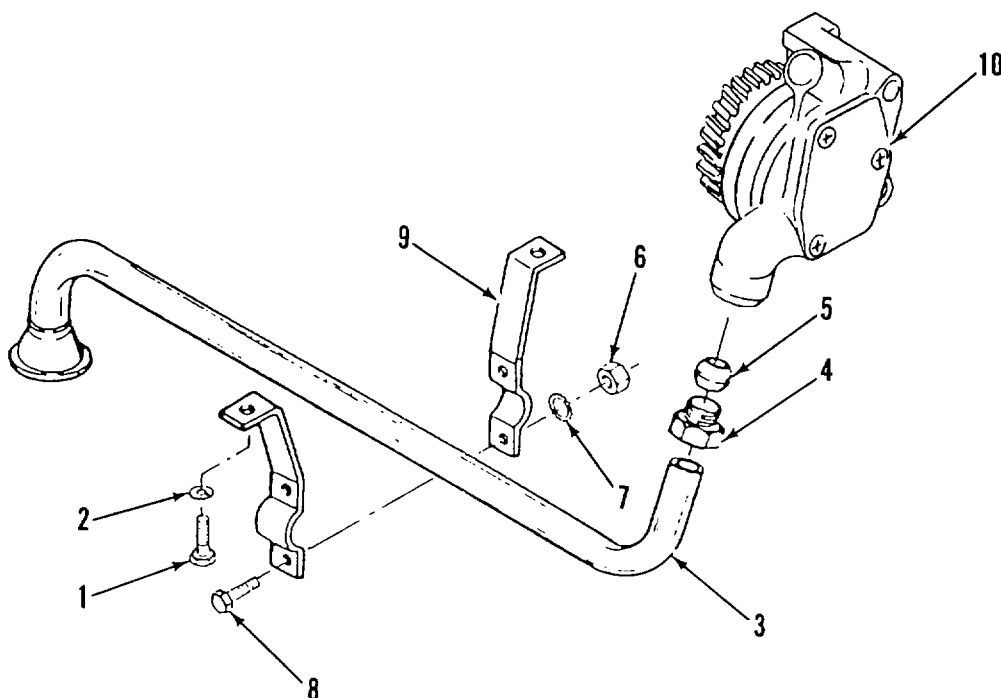

Figure 4-10. Oil Pump and Suction Tube
a. REMOVE. (Figure 4-10)
- (1) Remove mounting bolts (1) and lockwashers (2) holding the oil pump suction tube (3) to main bearing cap.
- (2) Loosen the suction tube hex nut (4). Remove oil pump suction tube (3) with duplex ring (5).
- (3) Remove nuts (6), star washers (7), bolts (8) and retaining bracket (9) from oil pump suction tube (3).